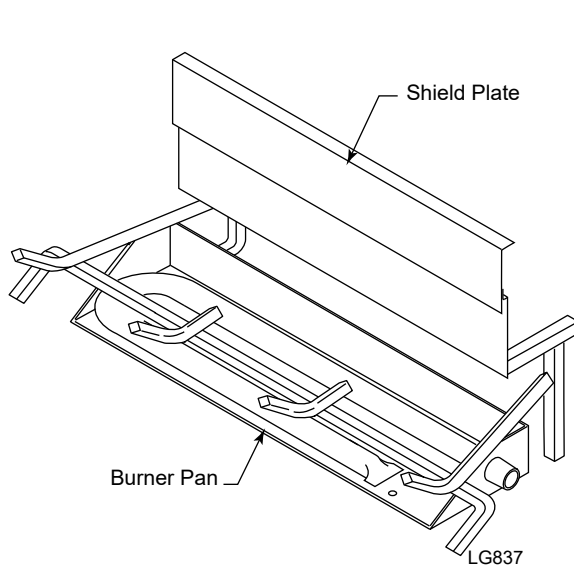

Figure 17 -
1. Slide shield plate behind burner pan. *Figure 17.*